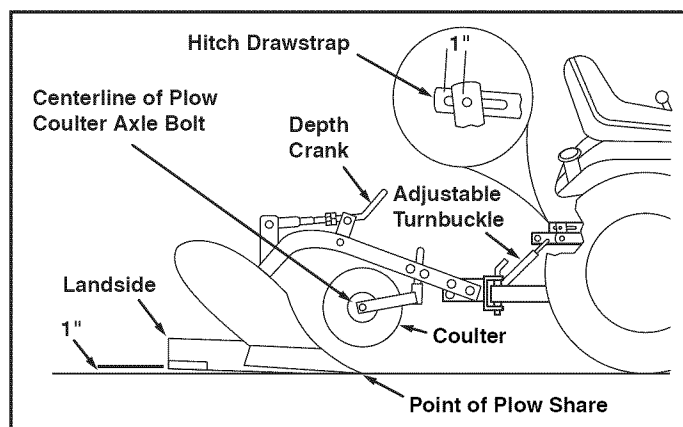

FIGURE 12
- Adjust the depth crank of plow until point of plow share is on the ground and the rear of plow landside is approximately 1" off the ground. (Refer to figure 12.)